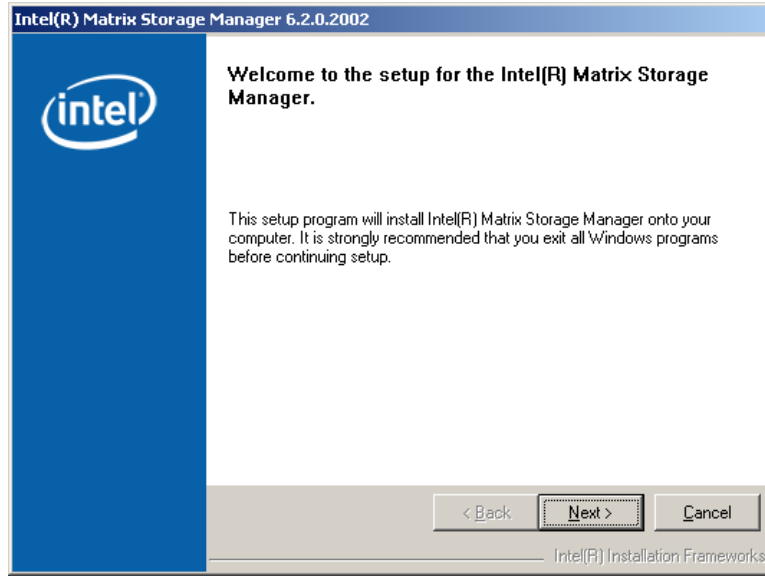

Figure 6-30: Matrix Storage Manager Welcome Screen
Step 8: Figure 6-30 shows the **Matrix Storage Manager** welcome screen.